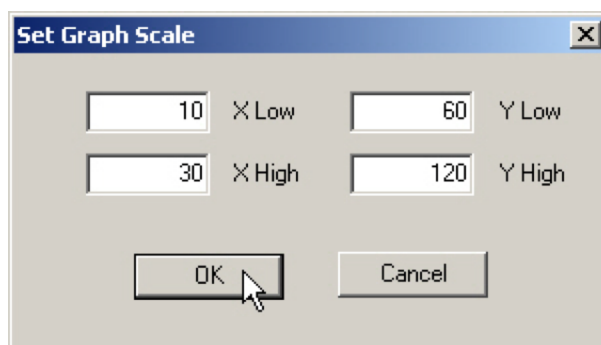

Figure 143 - Saving Scale Adjustments
2. Adjust the X axis and Y axis coordinates as necessary and click **OK** (*Figure 143*).